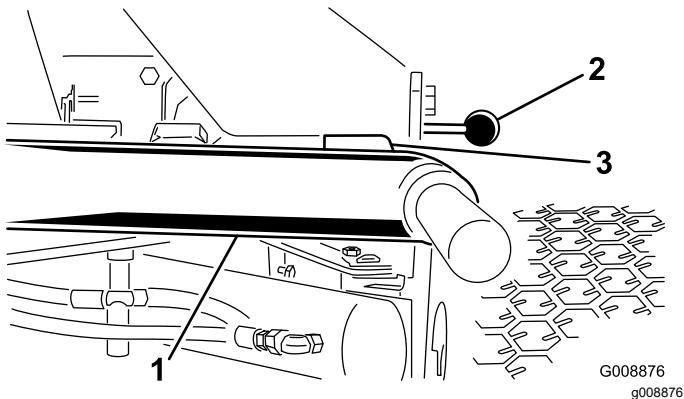

Figure 11
1. Start the engine, raise the cutting units, and check to ensure that the clearance between each lift arm and the floor plate bracket is 0.18 to 0.32 inches (5 to 8 mm) (Figure 11).